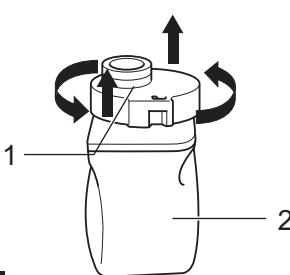

Fig.4
► Fig.4: 1. Dust nozzle 2. Dust bag